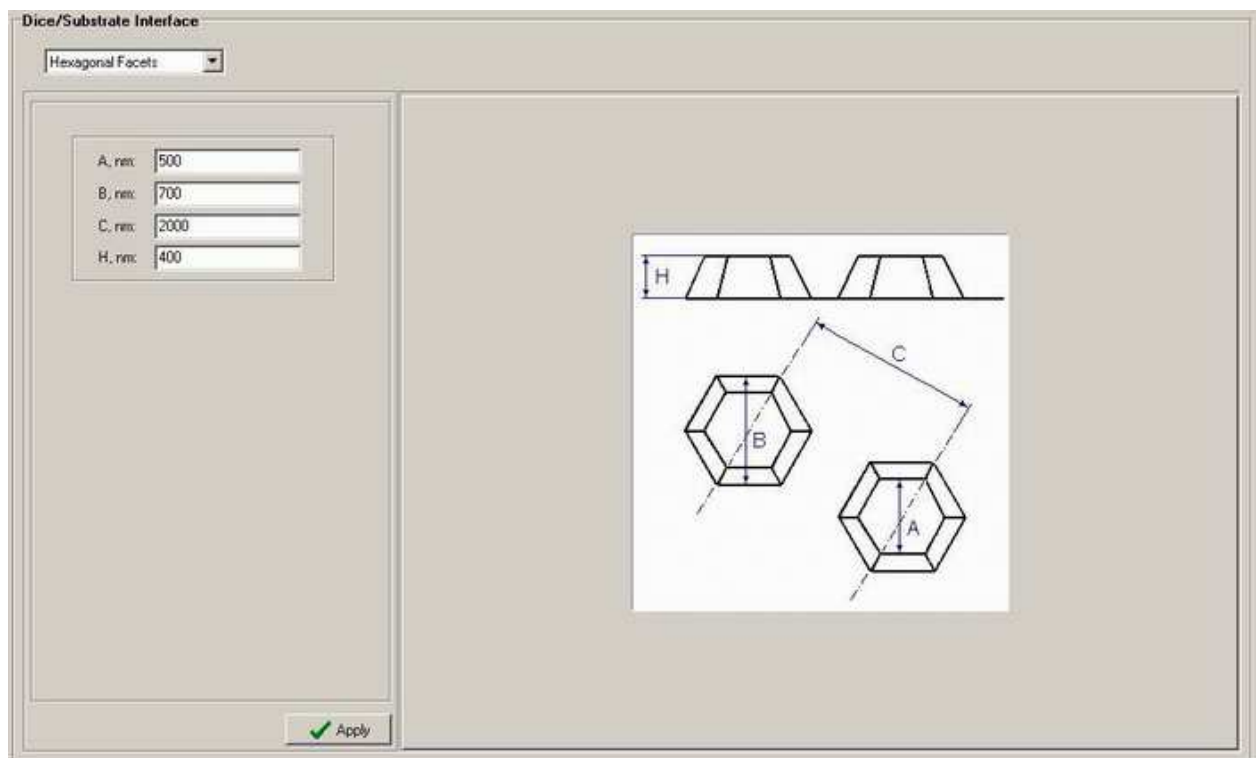

Fig. 62
- **Hexagonal Facets, Rectangular Facets, and Hemisphere Facets** (see Fig. 62). These types can be assigned to all metal-free surfaces, i.e. the n- and p-semiconductor layer free surfaces, substrate or n-semiconductor layer bottom surfaces and heterostructure/substrate interface. They represent regularly patterned surfaces with hexagonal and rectangular facets, respectively. The user should assign the geometric parameters of each facet.